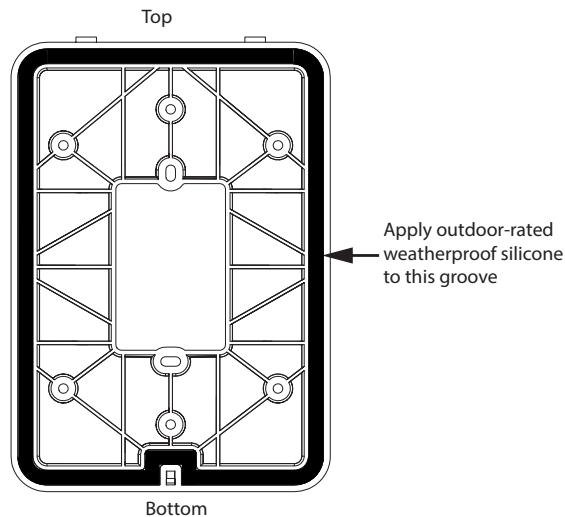

Figure 1. Mounting plate from the back: apply silicone to the groove
1. To prevent water from flowing around the mounting plate and into the TX3 Nano, apply outdoor-rated weatherproof silicone to the groove in the back of the mounting plate, as shown in Figure 1.